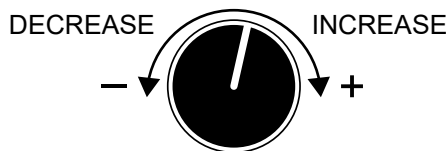

Figure 45. Voltage Regulator Control Knob
- If the voltage is not within the specified tolerance, use the **voltage regulator control knob** (Figure 45) to increase or decrease the desired voltage.